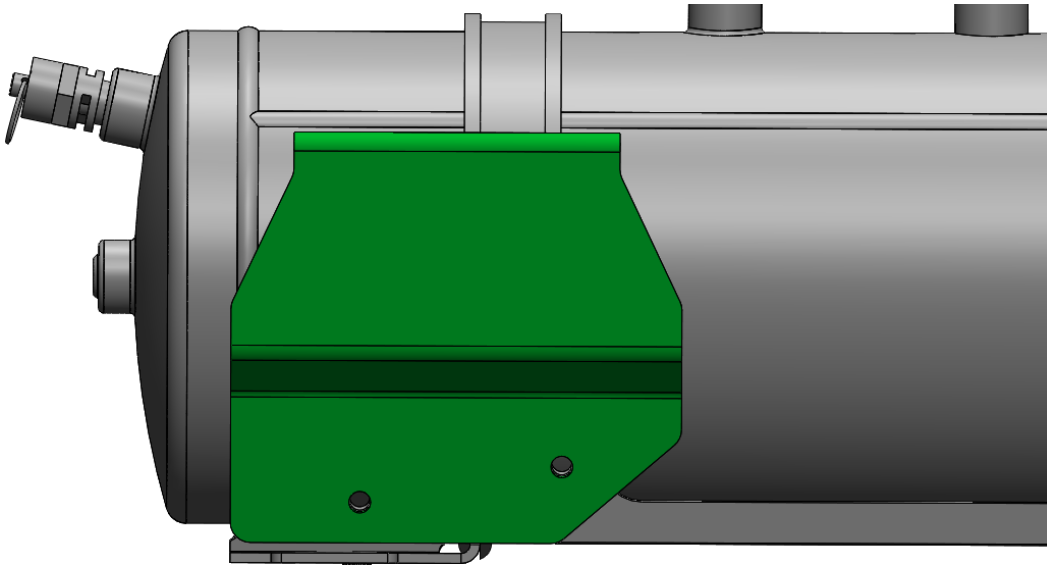

Figure 25 - RAPTOR-206 Lined Up with RAPTOR-201
10.7.1. Locate two holes on RAPTOR-201, near Air Tank drain fitting, as shown in Figure 25 below.